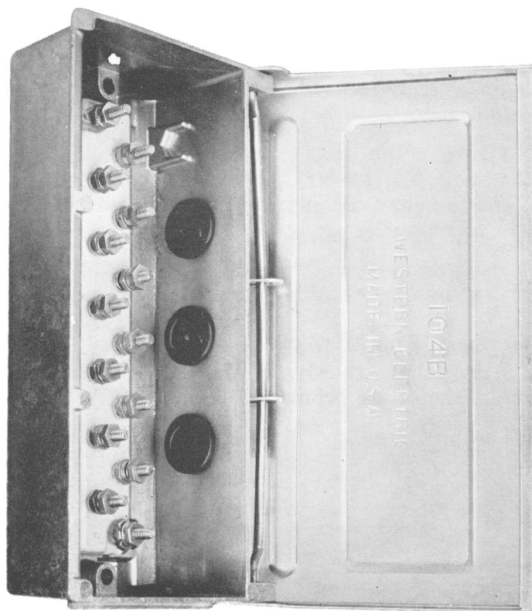

FIG. 2—104B WIRE TERMINAL
3.02 The 104B wire terminal shown in Fig. 2 employs a mounting which is an aluminum die cast box, with a toggle-type cover similar to the cover on the 104A. It is equipped with a terminal block having facilities for connecting 6-pair multiple drop wire. Two binding posts, one at each end of the block, are strapped together internally and are used for signaling grounds.
4.03 104B: The 104B wire terminal can be mounted either horizontally or vertically. Two mounting holes are provided. (See Fig. 2.) Use No.